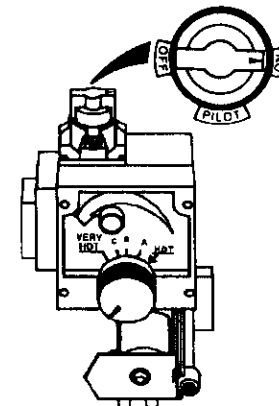

Figure 11
12. At arms length away, turn gas control knob counter-clockwise  to the full "ON" position. **WARNING Do not use gas control knob to regulate gas flow.** (Figure 11, Page 22)